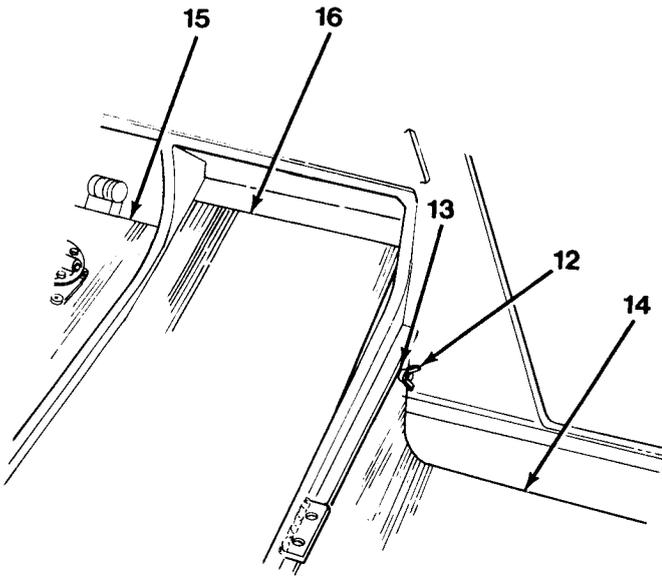

Figure 14-3
14. If necessary, remove two wing nuts (12), washers (13) and floormat (14, Figure 14-3). Remove all adhesive from cab floor.
15. Remove floormats (15) and (16), if replacement is necessary.
4. If removed, install floormats (16) and (15). Apply 3M #1300 adhesive to mating surfaces and install floormat (14), two washers (13) and wing nuts (12, Figure 14-3).